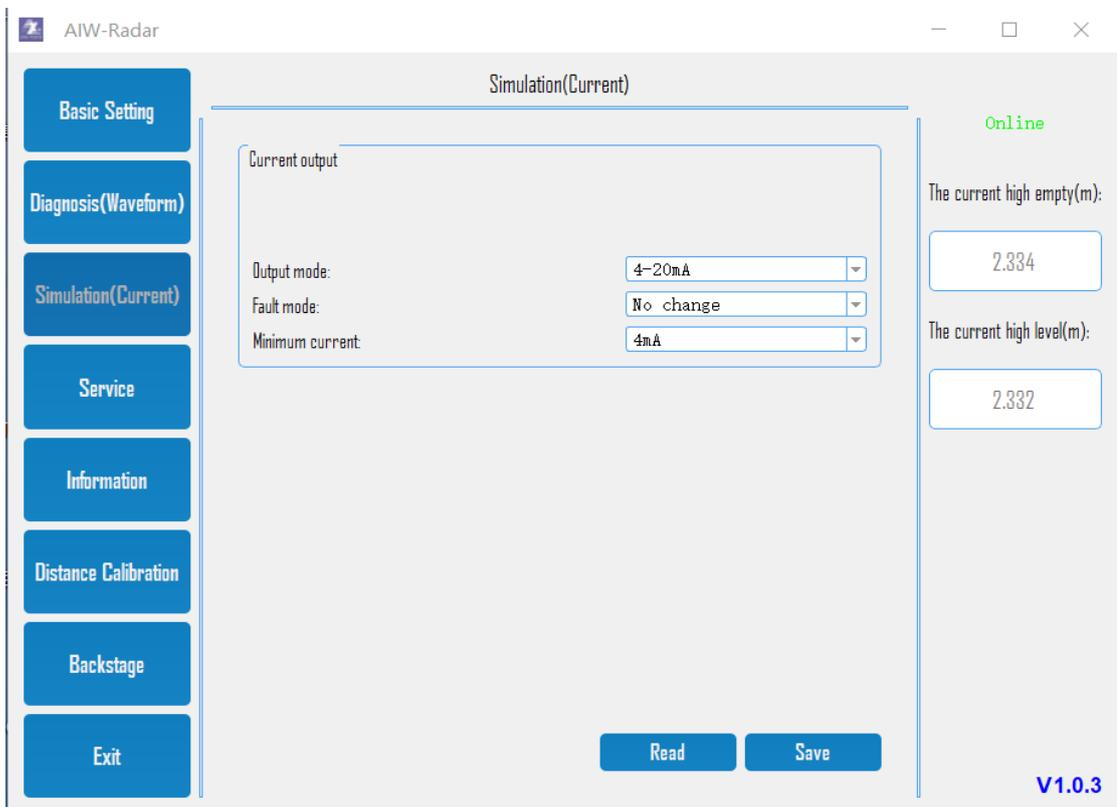

Figure 10.
- When the device supports current output, click the "simulation (current)" button on the left side of the main interface, and the main interface will display the relevant parameters of the device current output. It can be modified according to actual needs. As shown in Figure 10.